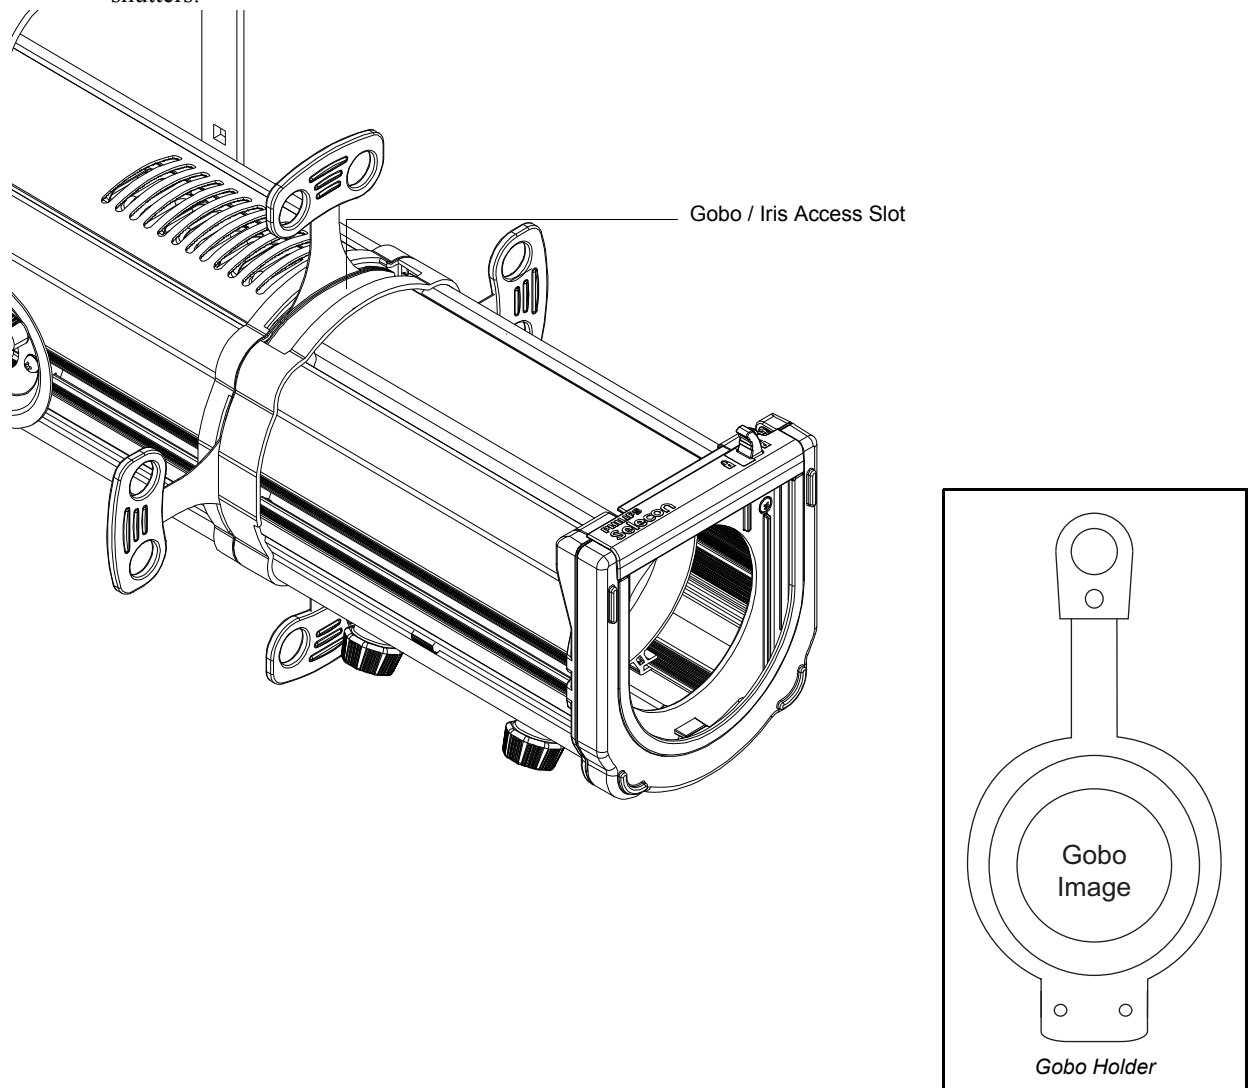

Figure 10: PLPROFILE1 MKII LED Luminaire Gobo Holder and Gobo Installation
- Step 1. As shown in Figure 10, locate gobo/iris access slot.